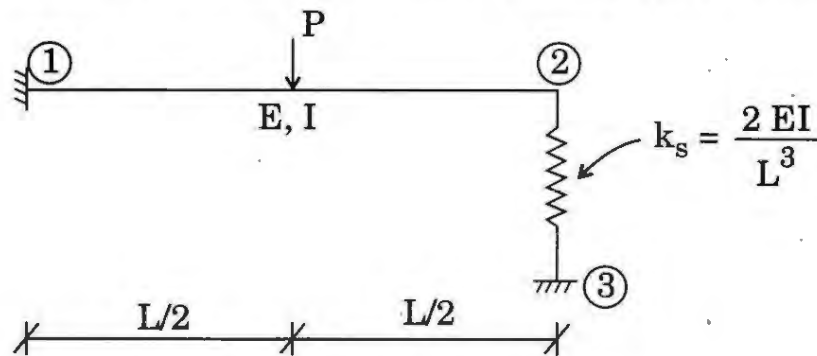

Figure 1
- (c) A propped cantilever beam is shown in Figure 1. Analyze it using the stiffness matrix method and find the reactions in the spring. Neglect axial deformation in the beam. Show the degrees of freedom. 12